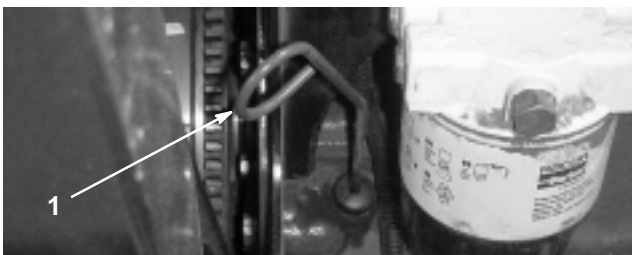

Figure 15
2. Remove the dipstick (Fig. 15) and wipe it with a clean rag. Push the dipstick down into the dipstick tube and make sure that it is seated fully. Pull the dipstick out and check the oil level. If the oil level is low, add enough oil to raise the level to the FULL mark on the dipstick.